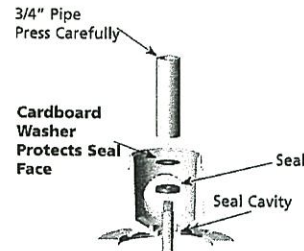

Figure 18 - If Necessary, Press With Cardboard And Pipe
6. If seal does not seat correctly after recleaning cavity, place a cardboard washer over polished seal face and carefully press into place using a piece of standard clean 3/4" pipe as a press (See Figure 18).